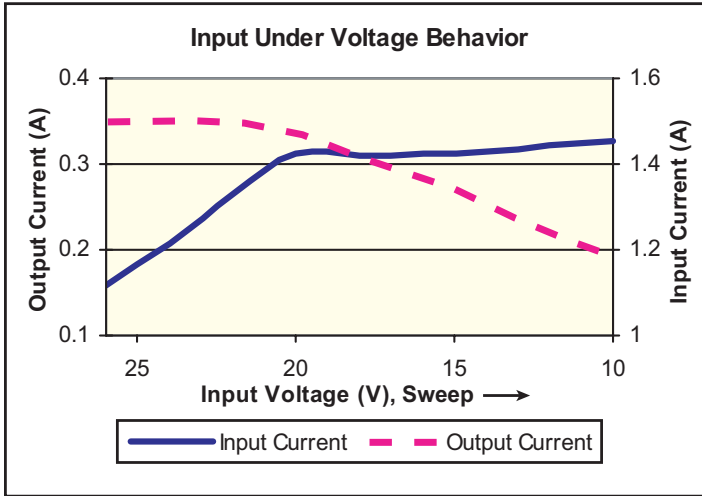

Fig. 5: Input Under Voltage Behavior
3. Input Under Voltage Protection: Input under voltage protection is provided by limiting the input current at low input voltages. Fig. 5 shows the output and input currents at voltages less than the minimum rated voltage. The LED current will decrease as the input voltage falls and the input current limits to about 1.4A. Note that the input current limit is not a hard limit as the slope compensation added to the peak current sense signal will allow a small change in the input current with a decrease in the input voltage.